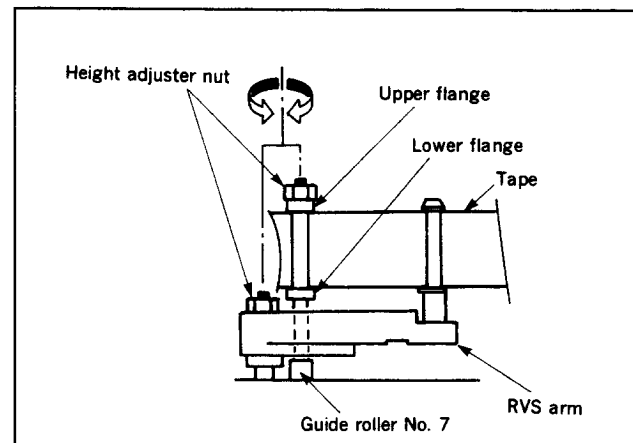

Fig. 4-3.
**4-1-3. Height adjustment of guide roller No. 7 and the RVS arm (Fig. 4-3.)**